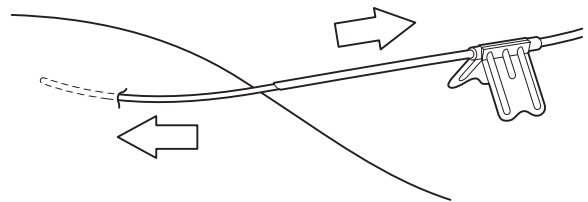

Figure 6
9. Push the catheter forward while pulling back on the needle. See Figure 6. Tape the catheter in place after the needle is out of the skin.